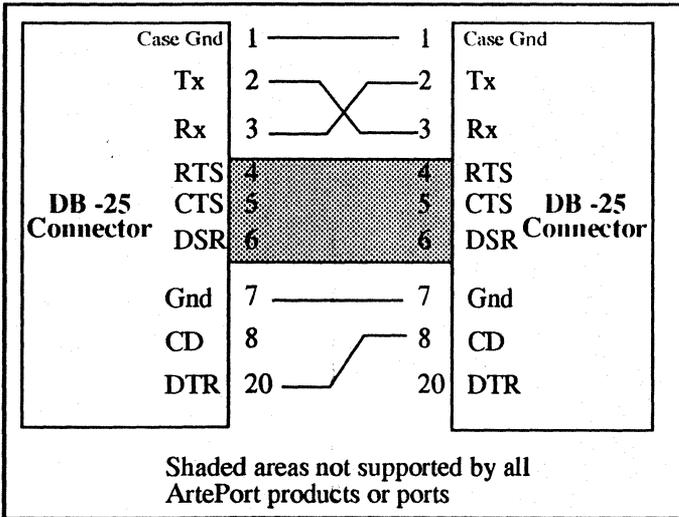

Figure 3-7. Serial Printer Cable
4. Finally, you must use a special cable to achieve the desired results, as shown in Figure 3-7.